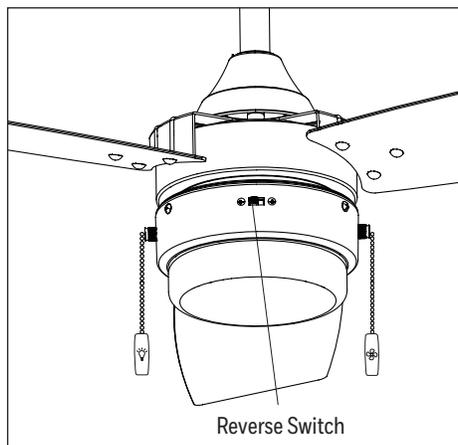

Figure 6.2
2. Using a ceiling fan will allow you to raise your thermostat setting in the summer and lower your thermostat in the winter without feeling a difference in your comfort. **In warmer weather**, push the reverse switch left which results in downward airflow creating a wind chill effect. **In cooler weather**, push the reverse switch right which results in upward airflow that will help move hot air of the ceiling (Figure 6.2). **Important:** The reverse switch must be set either completely to the right or to the left in order for the fan to function correctly. If the reverse switch is set in the middle position, the fan will not operate.